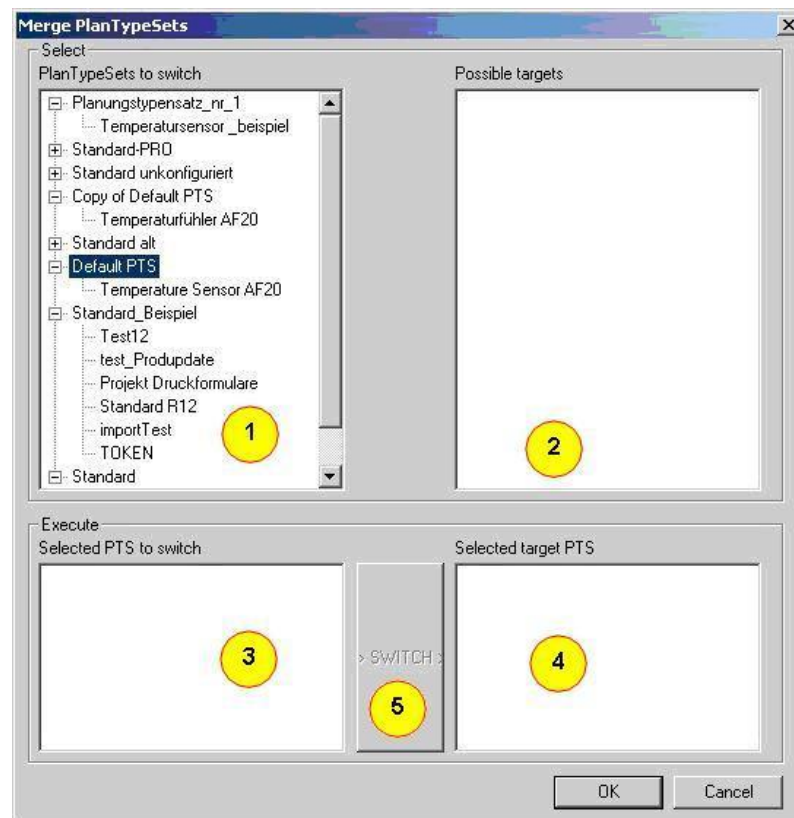

Figure 1: Merge Plantypesets
- If you have selected a plantype set which can be replaced by **no other** plantype set, all other sub-windows remain empty (Figure 1).